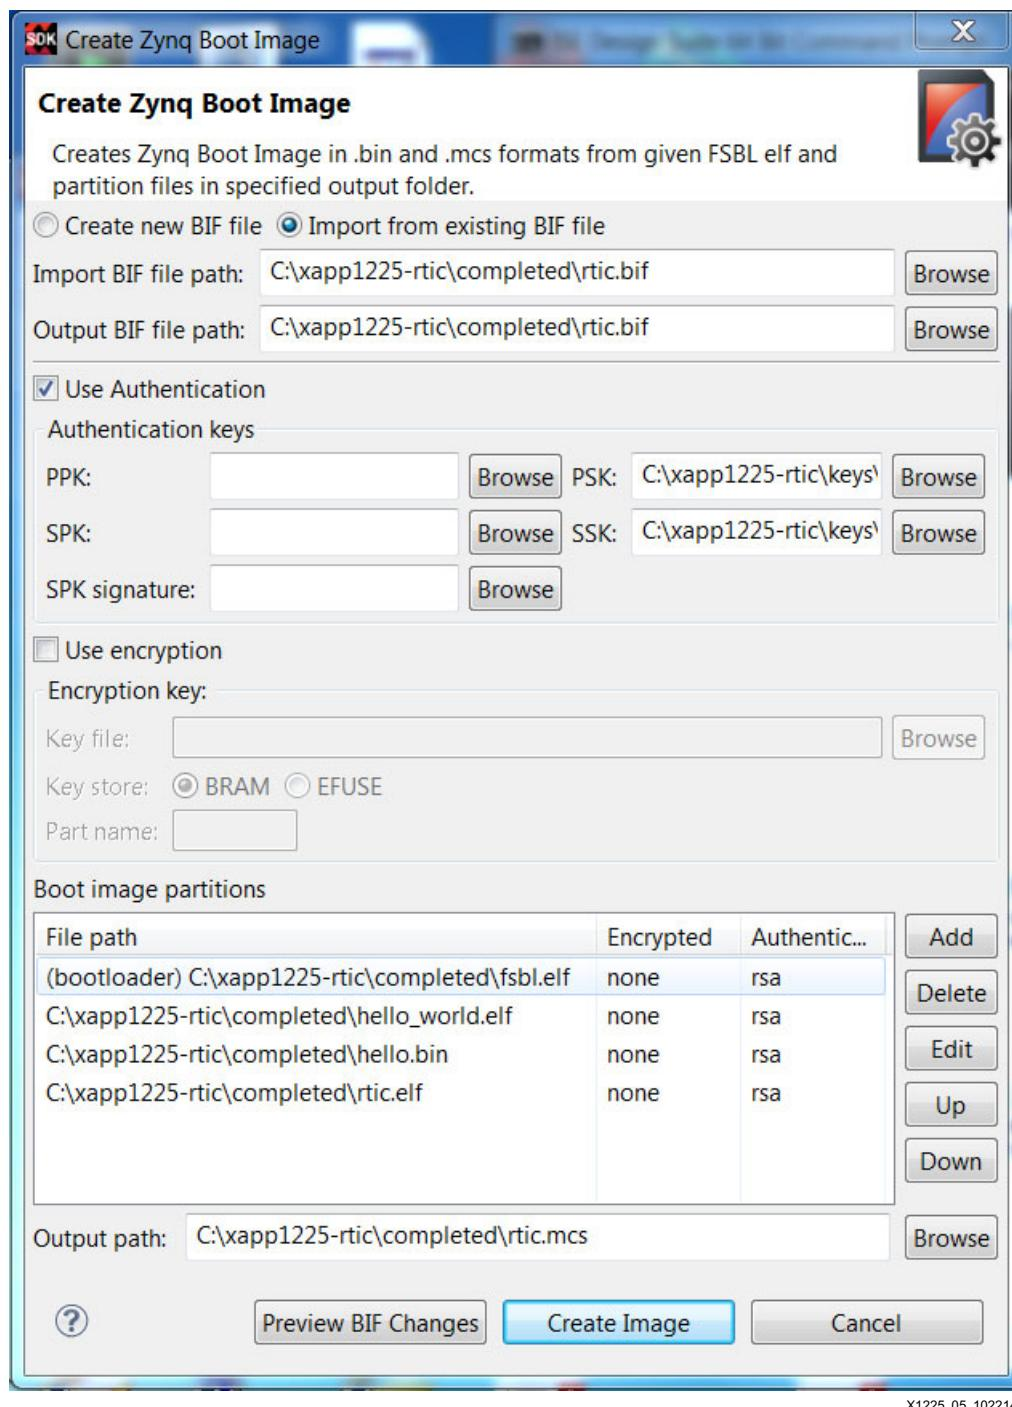

Figure 5: Use Bootgen to Create RTIC Image
18. With the Bootgen content as shown in Figure 5, click **Create Image** to write rtic.mcs.